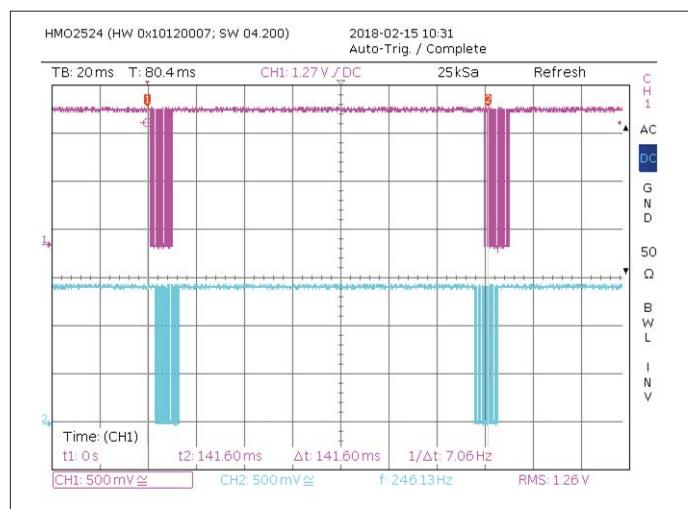

Figure 4. Here are data signals of two callipers. As can be seen, the data interval (and rate) is not identical but slightly differs between the two.
- The clock speed and data rate differ slightly between callipers, see **Figure 4**.